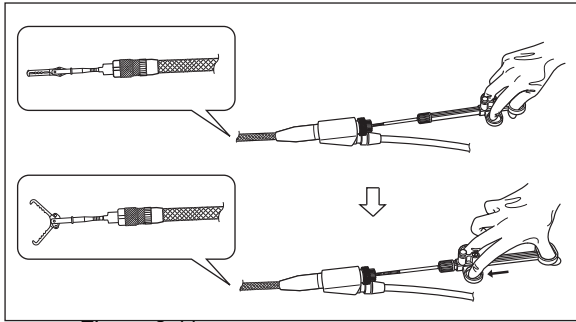

Figure 3.11
12. Move the slider to the front and rear and confirm that the forceps section opens and closes (see Figure 3.11).